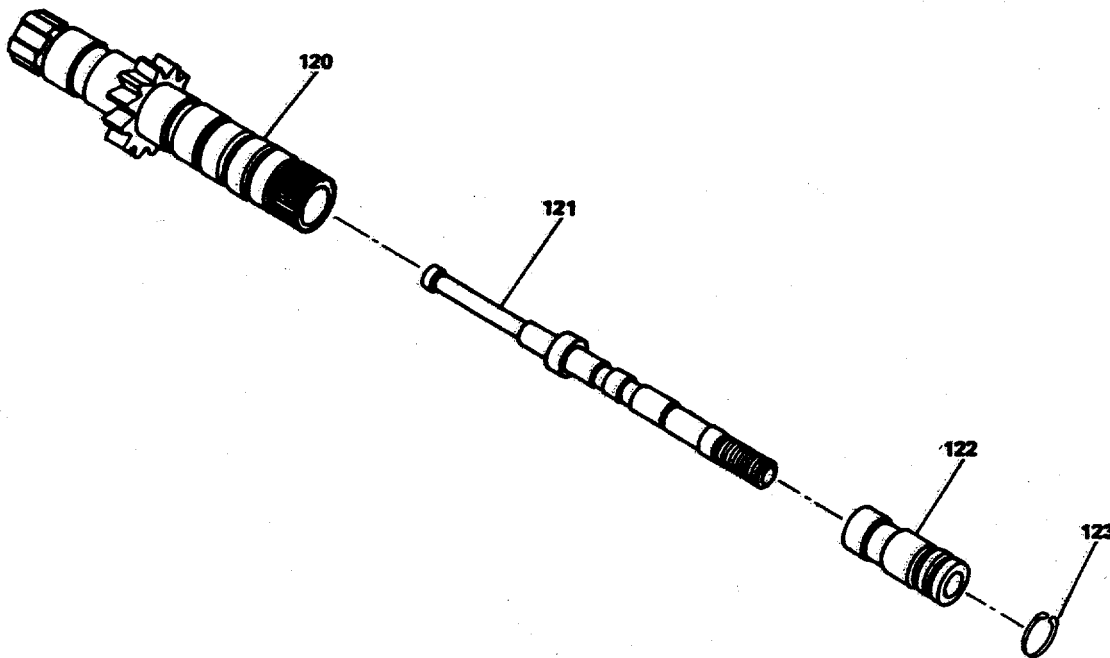

Figure 12-9. Governor Pilot Valve Assembly
- (4) Assemble governor pilot valve bushing (120), pilot valve plunger (121), compensating bushing (122) and retaining ring (123), figure 12-9.